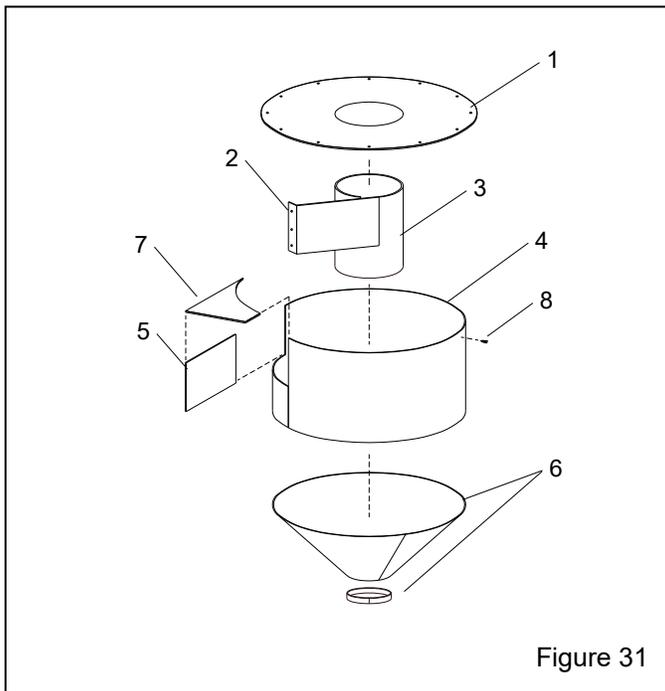

Figure 31
**Reclaimer Liners, 600 cfm only – Figure 31**